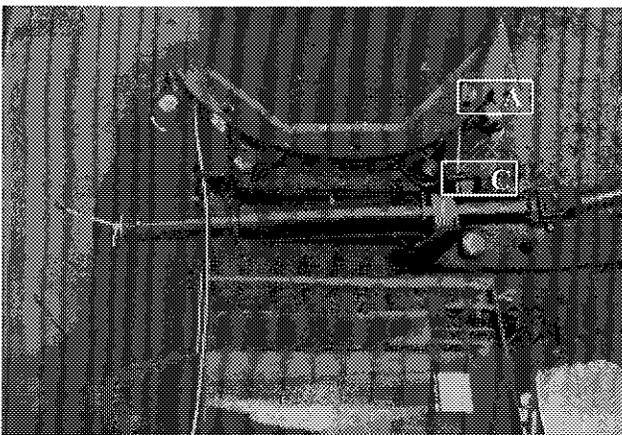

Figure 21
- 4) **Figure 21:** Turn crank clockwise until the cable clamp (A) is lined up with guide (C).